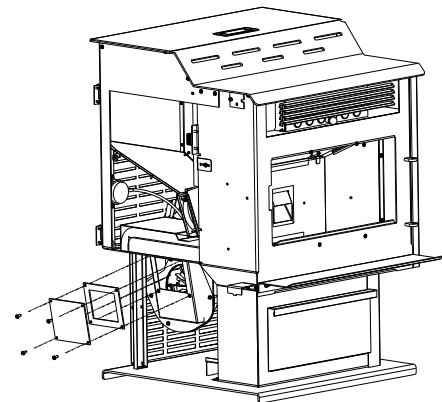

Figure 25
- **Blower Cleaning** – Over a period of time, ashes or dust may collect on the blades of both the combustion/exhaust blower and convection blower. Periodically, the blowers should be cleaned as the ash and dust can impede performance. The combustion/exhaust blower can be accessed by opening the left, right, and back panels.(Figure 25) To clean the blades in the combustion blower housing, insert the vacuum tip through the air inlet damper opening located on the side of the combustion blower housing. Clean thoroughly. To clean the blades in the exhaust blower housing, use a screw driver to remove the cleaning access panel located on the side of the metal box covering the housing. Insert the vacuum tip through the cleaning outlet and clean the blades thoroughly.